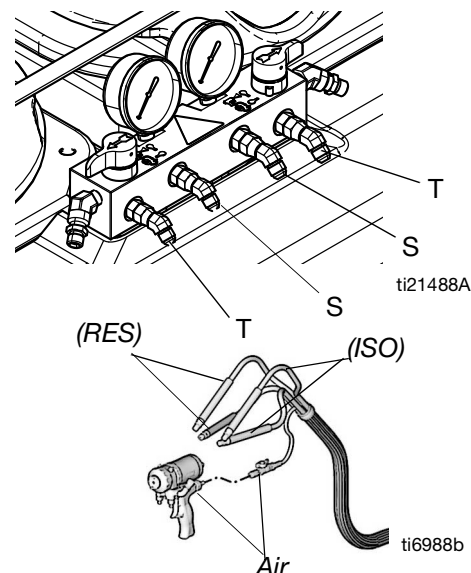

FIG. 5 Connect the Recirculation Hoses
1. Connect the fluid supply hoses to the outlet hose connections (S, FIG. 5). Red hoses for ISO, blue for RES. Fittings are sized to prevent connection errors. Connect the other end of hoses to ISO and RES inputs of gun.